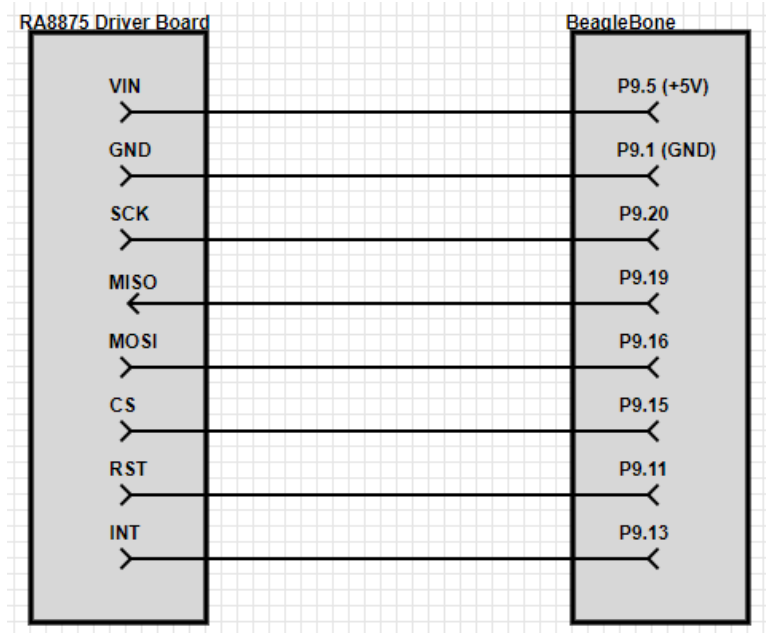

Figure 5 - Wiring between RA8875 and BeagleBone
4. Wire up the circuit as shown in Figure 5.